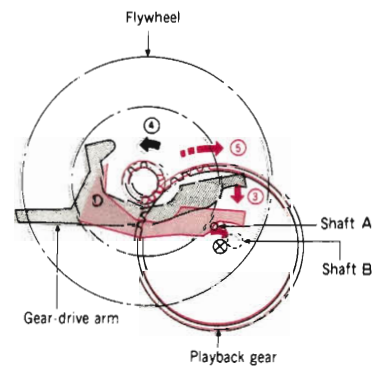

Fig. 2
At the same time, the motor switch turns "ON" by means of the movement of the lock plate, the motor starts and the flywheel rotates in the direction of arrow ④ (Fig. 2).
2) As the gear-drive arm slides to the position shown in color by Item 1) as shown in Fig. 2, the shaft A, which is attached to the playback gear moves along the inclined surface of the gear-drive arm to make the playback gear rotate in the direction of arrow ⑤ so that 1 or 2 teeth of the gear engage the gear of the flywheel.